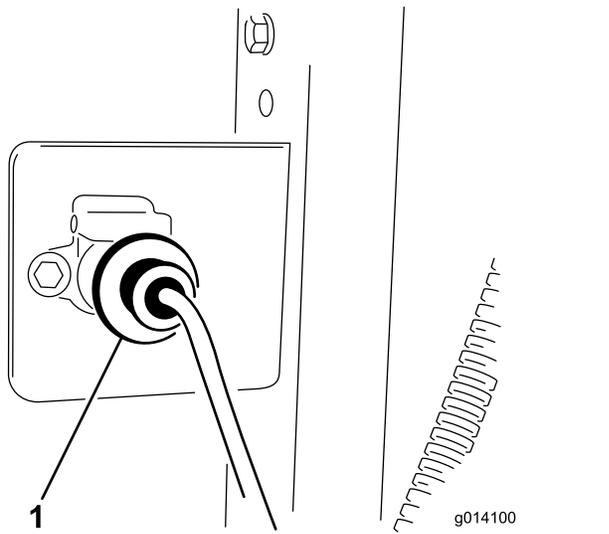

Figure 10
3. Secure the wire harness socket to the bracket with 2 bolts (1/4 x 1 inch) and nuts (Figure 10).
5. Attach the base unit wiring harness to the tow vehicle wiring harness (Figure 10). The connector is located among the hydraulic hose attached to the tow vehicle.